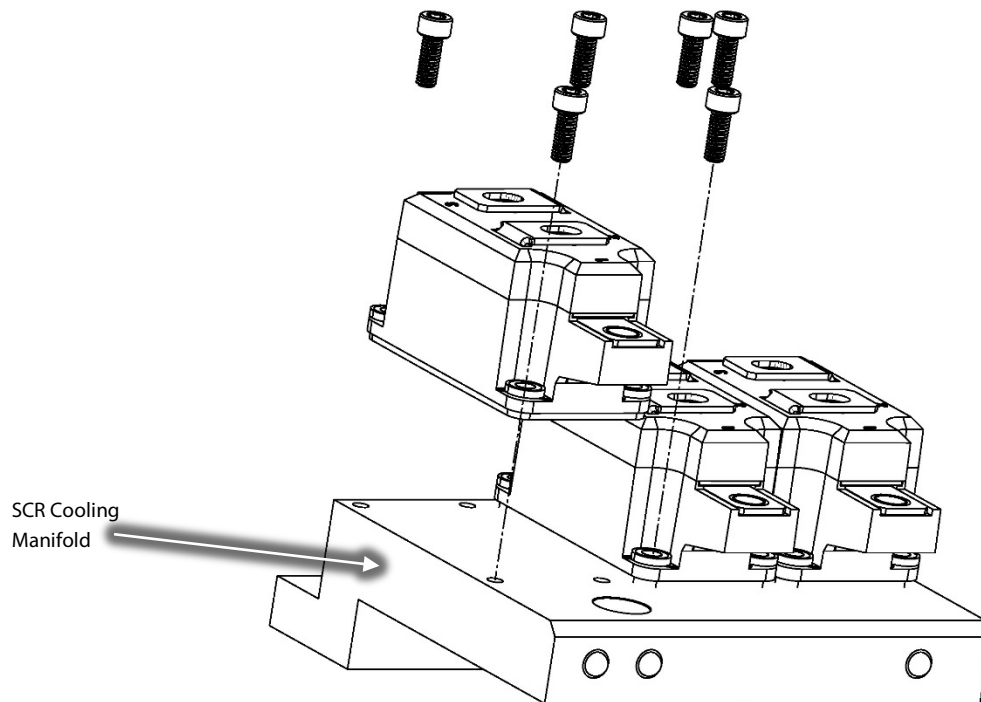

Figure 13 – SCR Removal
22. Remove the 12 M6x16 screws that secure the SCRs to the SCR Cooling Manifold. Refer to Figure 13 (SCR Removal).